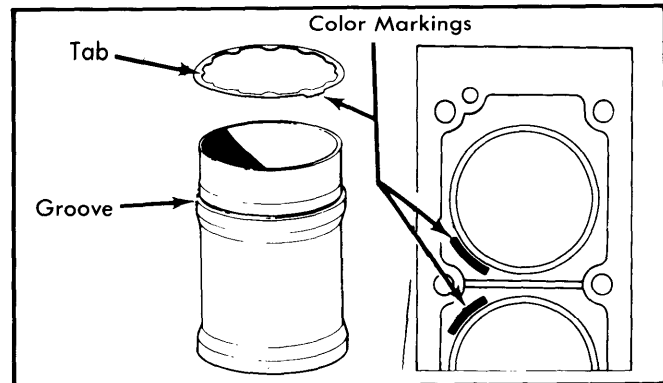

Fig. 11 Positioning Shims on Liners
① - Use same thickness shims for all liners.
5) Install shims with color marking up and positioned as shown in Fig. 11. Inner tabs on shims should be in liner groove.